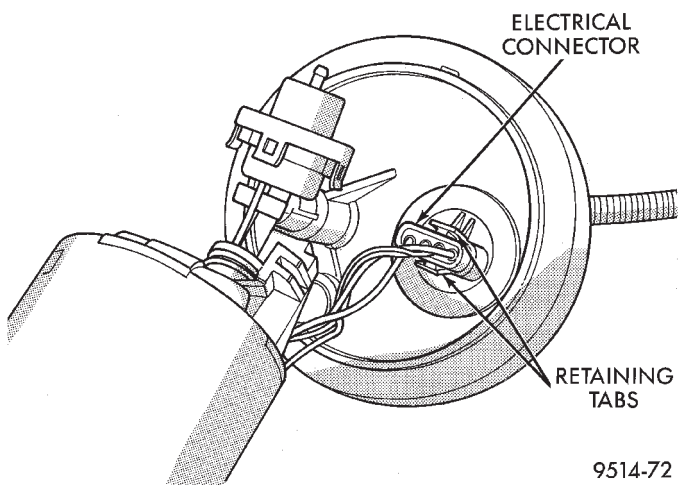

Fig. 20 Fuel Pump/Level Sensor Electrical Connector
(1) Depress retaining tab and remove the fuel pump/level sensor connector from the **BOTTOM** of the fuel pump module electrical connector (Fig. 20).